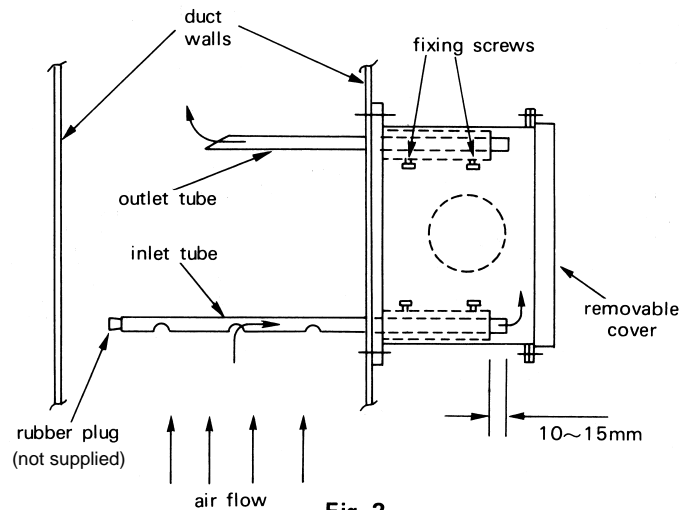

Fig. 2
5. Remove the front of the probe housing and insert the inlet and outlet tubes in their appropriate positions, having plugged the duct end of the inlet tube with a plug. See Fig. 2 for positioning detail, paying particular attention to the amount by which the tubes should protrude into the detector housing chamber.